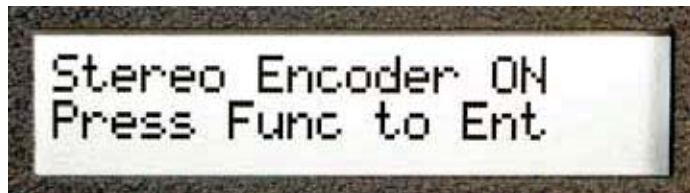

Figure 3-6. Press the RAISE or LOWER key to Change the LCD Display
2. To change the Stereo Encoder ~~sting~~ setting, press the RAISE or LOWER key, which will result in the alternate setting (see Figure 3-6).